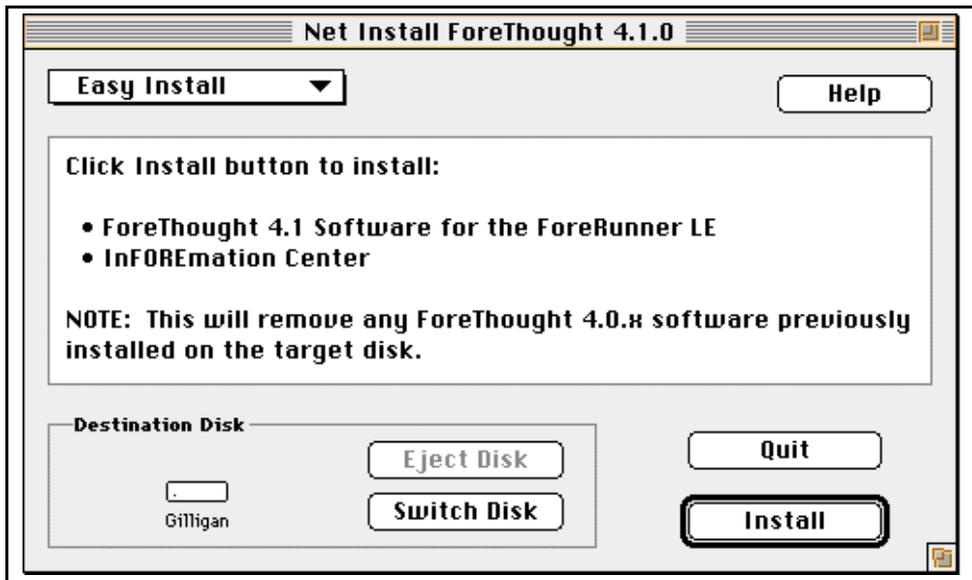

Figure 3.6 - Install FORE Software Window - Easy Install Mode
1. Follow the installation procedure outlined in “Easy Install Software Installation Procedure” on page 3-2, steps 1 through 3. The `Install FORE Software` window in the default Easy Install mode appears (Figure 3.6).